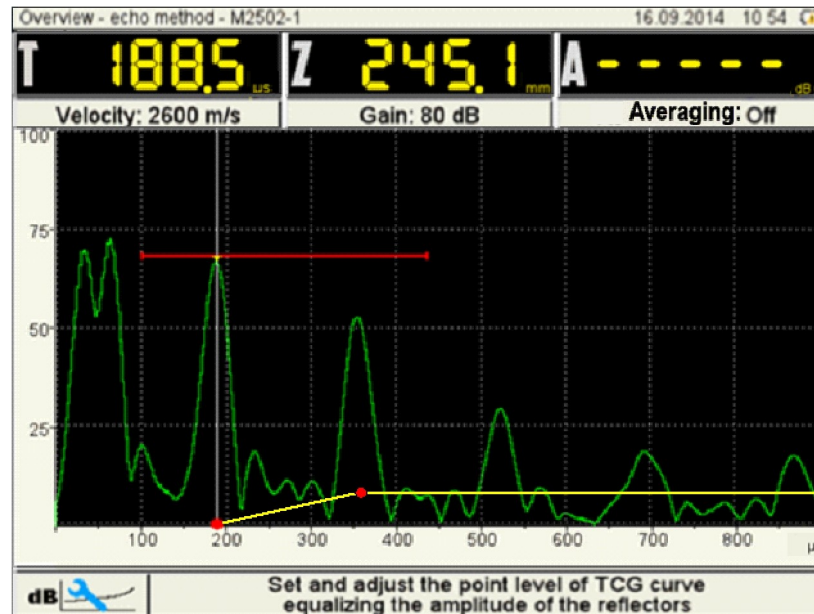

Figure 11: Adjustment of TGC point
- Repeat the procedure to create a TGC point for the next reflector (Figure 11). Correct the amplitude of the newly created TGC point pulling up the amplitude to the gate level using the   keys.